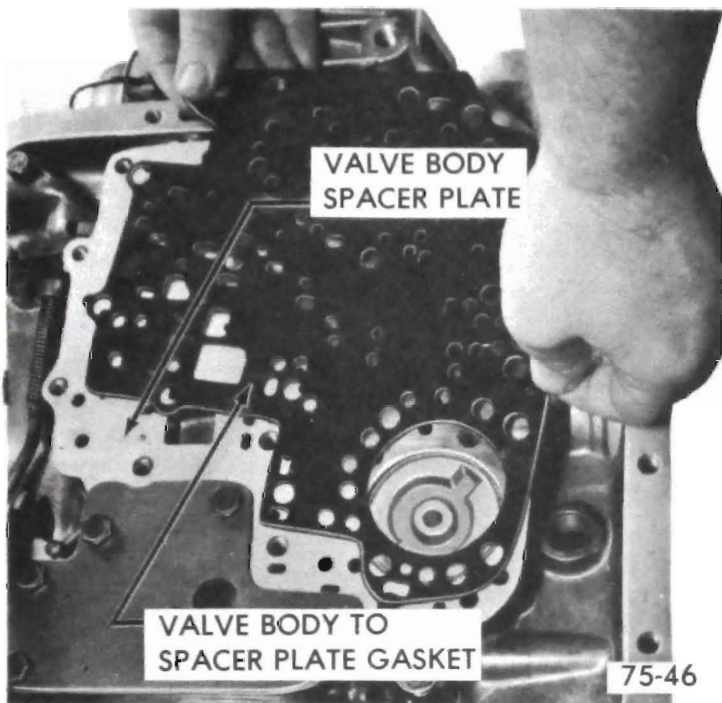

Figure 75-272
2. Install valve body to spacer plate gasket. See Figure 75-272.